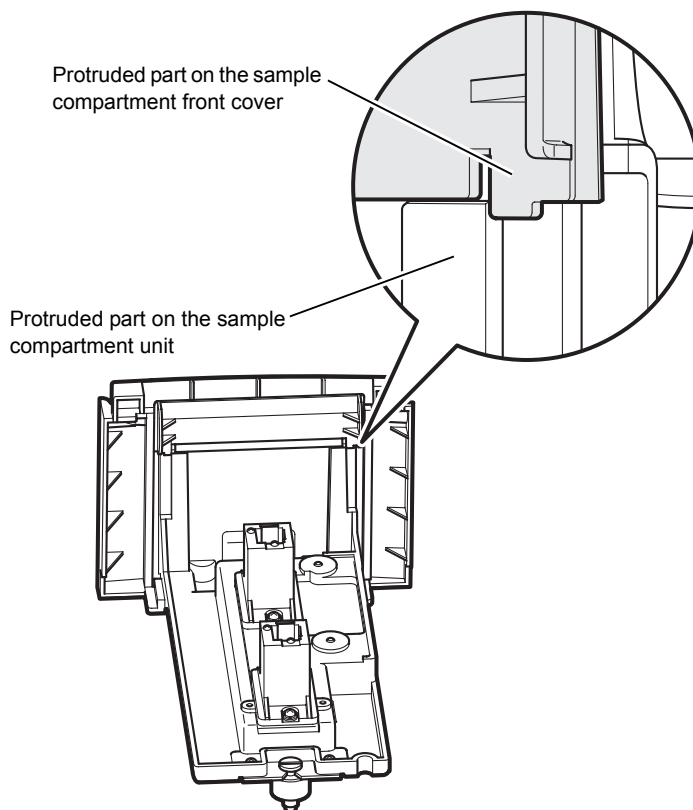

Fig.5-16 Fitting the Sample Compartment Front Cover
- 3 Fit the protruded parts on the sample compartment unit shown in Fig.5-16 to the corresponding protruded parts on the front cover (2 places).